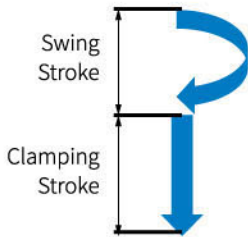

Figure 2
- Swing clamp cylinders can be single-acting (with spring return) or double-acting, offering both clockwise and counterclockwise rotation. The standard rotation angle is  $90^\circ$ , with options for  $60^\circ$ ,  $45^\circ$ ,  $30^\circ$ , and  $0^\circ$  (as shown in Figure 2).